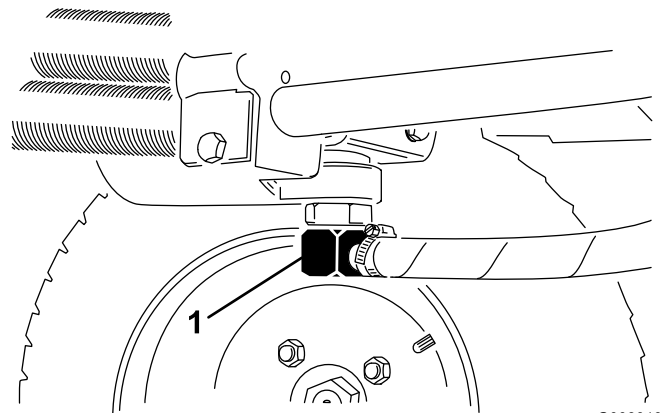

Figure 59
2. Disconnect the hydraulic line (Figure 59) or remove the hydraulic filter (Figure 58) and let the hydraulic fluid flow into a drain pan. Install the hydraulic line when hydraulic fluid stops draining.